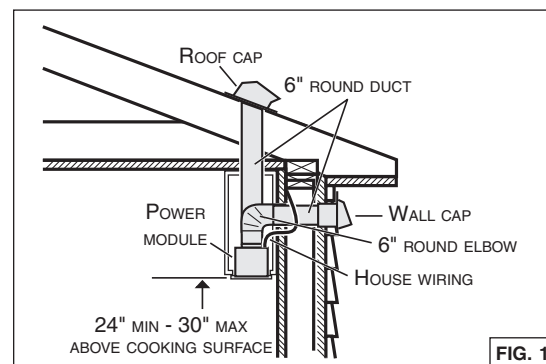

FIG. 1
1. Decide where the ductwork will run between the hood and the outside. (Fig. 1)